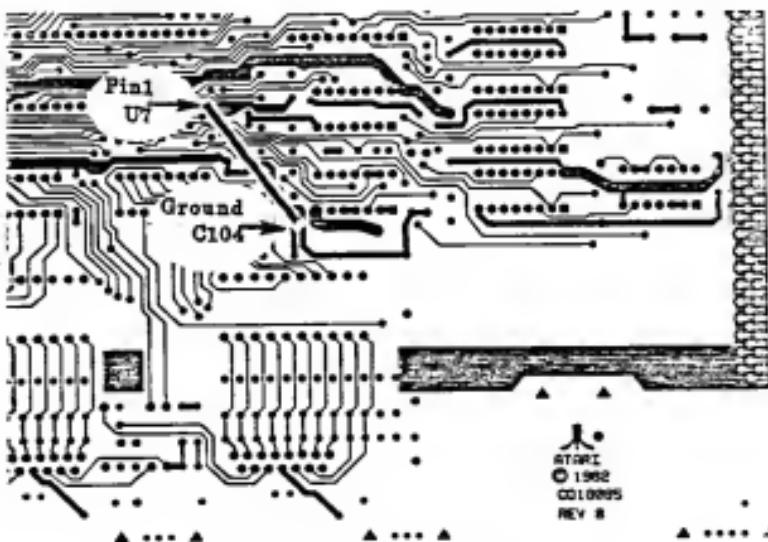

Figure 1. Sleeve Bus Wire Placement
- 6) On the solder side of the PCB solder one end of the sleeved buss wire to Pin 1 of U7. See Figure 1.
- 7) Solder the other end of the sleeved wire to the ground lead of C104. See Figure 1.